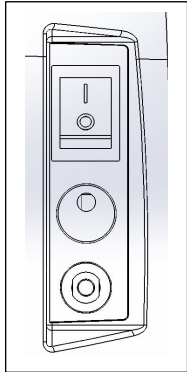

Figure 2
A. **MAIN POWER SWITCH:** Located at the back of the machine, applies power to the laminator. The 'ON' position is indicated by the 'I' symbol. The 'OFF' position marked 'O' symbol (figure 2).
- K. **Circuit Breaker:** (figure 2) The circuit breaker is located below the power cord and can be reset by pushing the button. If the circuit continues to fail, please contact authorized service provider.